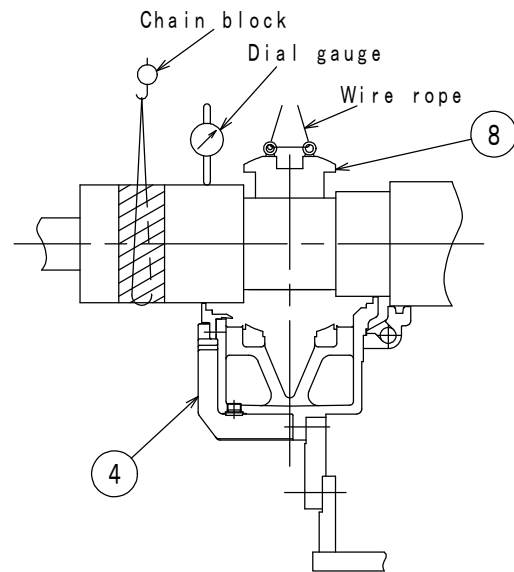

Fig. 10
- (2) During lifting the rotor, rotate bearing shell lower half ⑧ to the top position of the shaft journal.
- (3) Screw eye-bolts into bearing shell lower half ⑧, and take it out by lifting (see Fig. 10).